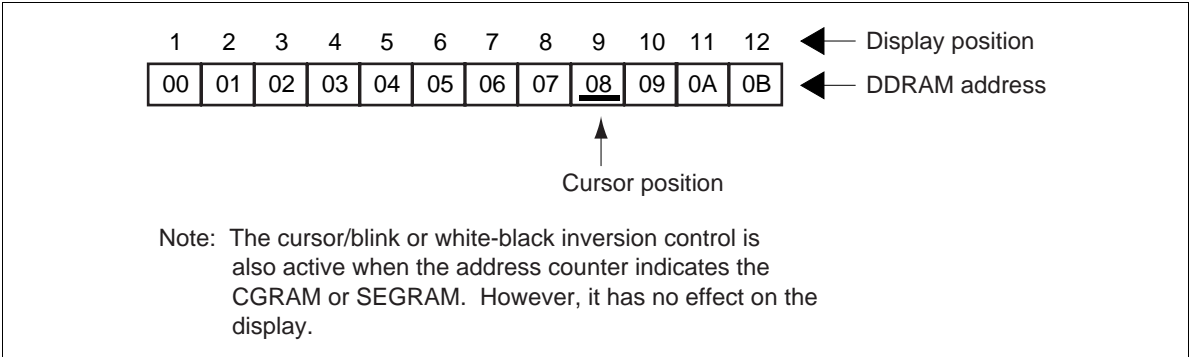

Figure 2 Cursor Position and DDRAM Address
For example (Figure 2), when the address counter is 08H, a cursor is displayed at a position corresponding to DDRAM address (08)H.